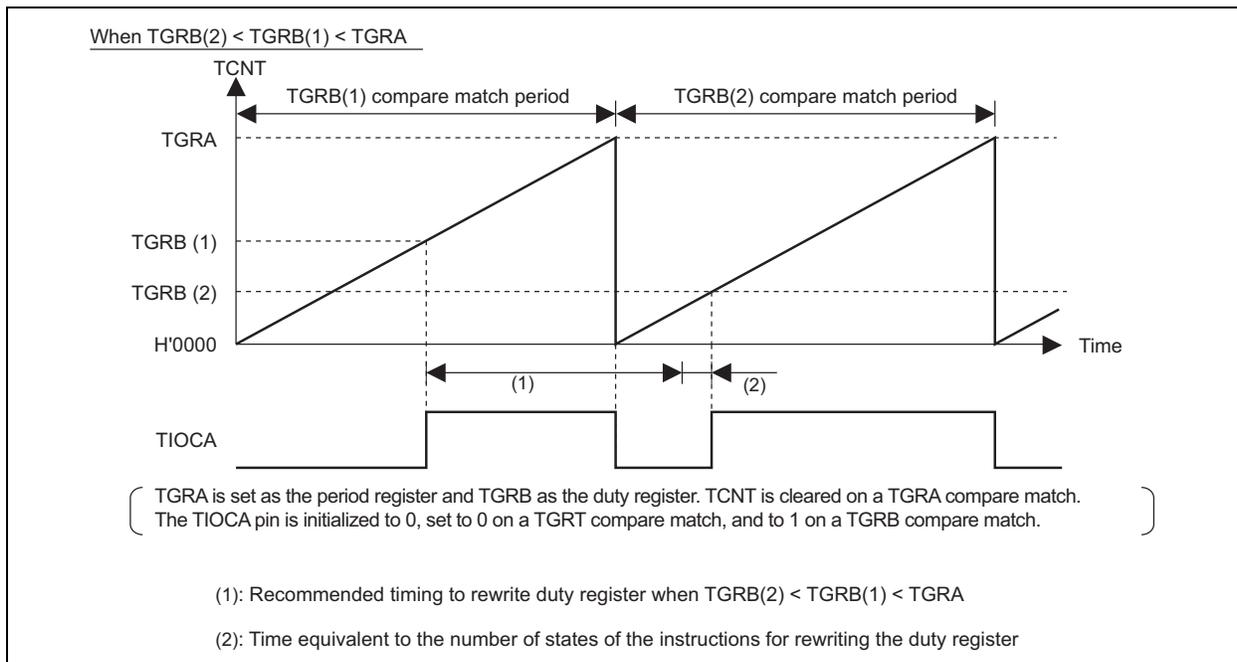

Figure 10 Timing for Rewriting Duty Register to Avoid 0% Duty and 100% Duty Outputs in PWM Mode ($TGRB(2) < TGRB(1) < TGRA$)
Figure 10 shows the timing example in which the duty register is written to avoid 0% and 100% duty outputs in PWM mode ($TGRB(2) < TGRB(1) < TGRA$).
In figure 10, the period (2) denotes the time equivalent to the number of states of the instructions executed to rewrite the duty register. It is calculated from the number of clocks input to the TCNT and the number of states of the instructions taken to rewrite the duty register.
To rewrite the duty register in such a situation in which the duty register values are $[TGRB(2) < TGRB(1) < TGRA]$, it is necessary to do so during the period from the generation of the TGRB(1) compare match till the generation of the TGRB(2) compare match minus the period equivalent to the number of states taken to execute the instructions for rewriting the duty register ((2) in figure 10), i.e., ((1) in figure 10).